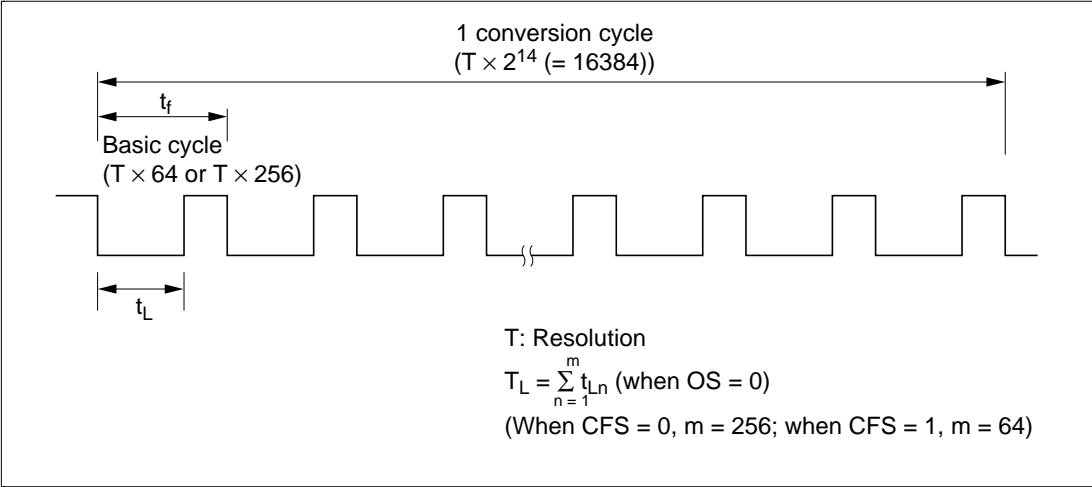

Figure 14-3 PWM D/A Operation
A PWM waveform like the one shown in figure 14-3 is output from the PWMX pin. When OS = 0, the value in DADR corresponds to the total width (T_L) of the low (0) pulses output in one conversion cycle (256 pulses when CFS = 0, 64 pulses when CFS = 1). When OS = 1, the output waveform is inverted and the DADR value corresponds to the total width (T_H) of the high (1) output pulses. Figure 14-4 shows the types of waveform output available.
Table 14-4 summarizes the relationships of the CKS, CFS, and OS bit settings to the resolution, base cycle, and conversion cycle. The PWM output remains flat unless DADR contains at least a certain minimum value. Table 14-4 indicates the range of DADR settings that give an output waveform like the one in figure 14-3, and lists the conversion cycle length when low-order DADR bits are kept cleared to 0, reducing the conversion precision to 12 bits or 10 bits.